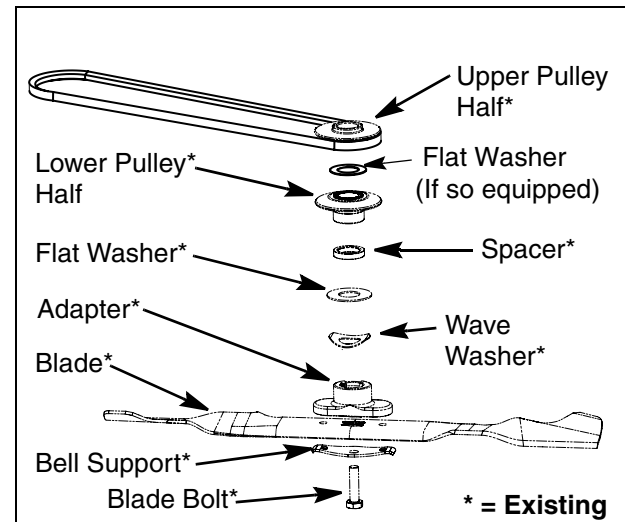

FIGURE 3
6. Refer to Figure 3. Remove the blade bolt, bell support, blade, adapter, wave washer, flat washer, spacer and lower pulley half.
8B. If the existing belt on the unit is a **754-04093** and there **IS** a flat washer between the engine pulley halves, see Figure 3, discard the flat washer and both existing engine pulley halves.
8C. If the existing belt on the unit is a **754-04093** and there is **NO** flat washer between the engine pulley halves, see Figure 3, retain the pulley halves for later re-installation. These are the same pulley halves contained in this kit.
15. Re-Install the upper engine pulley half (has no key in the bore) on the crankshaft with the cone side facing the blade attach end of the crankshaft. Place the new belt, Item 1, on the crankshaft. Install the lower pulley half (with the square key in the bore) with the cone side facing the upper pulley half thereby trapping the belt between the two cone surfaces. See Figure 3. Make sure that the serrated surfaces of the two pulley halves are interlocked and the belt is not keeping the pulley halves from interlocking. Retain the 2 engine pulley halves that came in the kit as spares.
16. Install the new upper engine pulley half (has no key in the bore), Item 3, on the crankshaft with the cone side facing the blade attach end of the crankshaft. Place the new belt, Item 1, on the crankshaft. Install the new lower pulley half (with the square key in the bore), Item 2, with the cone side facing the upper pulley half thereby trapping the belt between the two cone surfaces. See Figure 3. Make sure that the serrated surfaces of the two pulley halves are interlocked and the belt is not keeping the pulley halves from interlocking.
17. Re-install the remaining hardware onto the crankshaft in the order shown in Figure 3. Ensure that the belt is not pinched between the inside serrated surfaces of the two pulley halves.